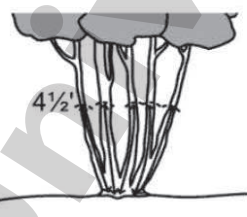

Figure 4
- d. For multi-stemmed trees, the size is determined by measuring all the trunks, and then adding the total diameter of the largest trunk to one-half the diameter of each additional trunk (Figure 4). A multi-stemmed tree has trunks that are connected above the ground and does not include individual trees growing close together or from a common root stock that do not have trunks connected above the ground.